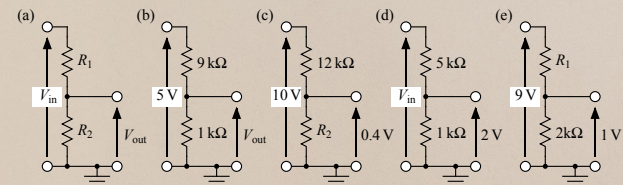

Figure 1: A selection of potential dividers.
1. Figure 1(a) shows a widely used circuit called a *potential divider* formed by two resistors. The input and output voltages are given in terms of the resistances by
Use this to find the unknown quantities in figures 1(b)–(e). [0.5 V, 500 Ω , 12 V, 16 k Ω .]